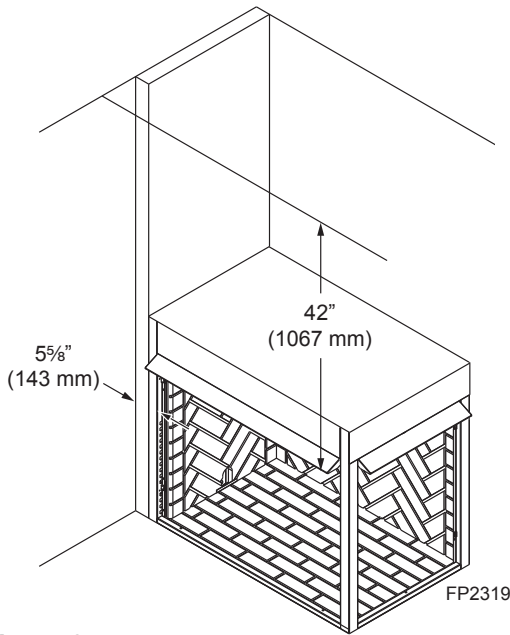

Figure 3 - Sidewall and Ceiling Clearances
Ensure that minimum clearances shown in *Figures 3 through 7* are maintained. Left and right clearances are determined when facing the front of the firebox.
1. **Sidewall Clearances** — The clearance from the inside of the appliance to any combustible adjacent wall should not be less than 5 $\frac{5}{8}$ ". Refer to *Figure 3*.
2. **Ceiling Clearance** — The ceiling must be at least 42" from the top of the firebox opening (bottom of hood). Refer to *Figure 3*.